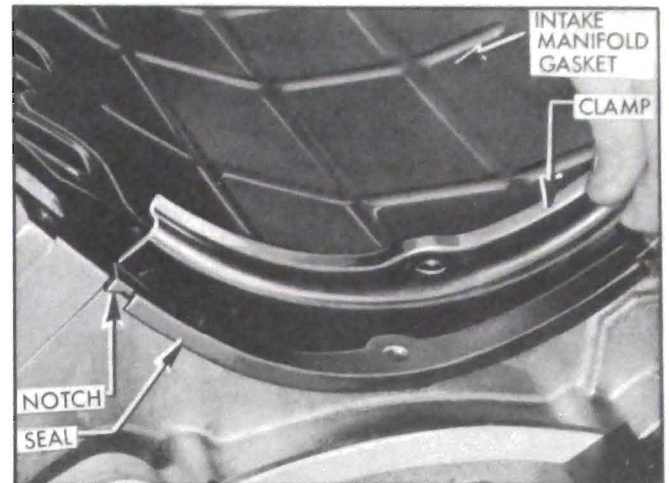

Figure 2-25—Intake Manifold Gasket, Clamp and Seal
(i) After making certain there is no coolant present, remove intake manifold gasket clamps and remove gasket. Remove rubber gasket seal. See Figure 2-25.
1. Install new intake manifold gasket seals as shown in Figure 2-25. Make sure the ends of the seals fit properly in the notches provided in the